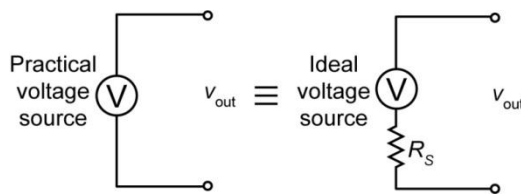

Fig. 5.6: Practical voltage source.
However, if you look at the output voltage of a voltage source, you will find that it decreases as we increase the current drawn from it. This is because an ideal voltage source is expected to have zero resistance. But in practice, there is always a finite (however small, but non-zero) resistance of a practical voltage source. Hence, we represent a practical voltage source as an ideal voltage source (V) in series with a finite source resistance (R_S) as shown in Fig. 5.6.